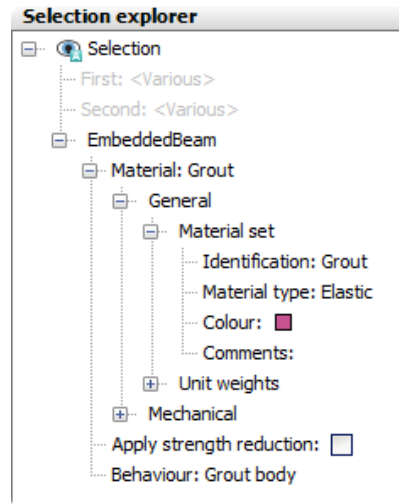

Figure 82: Embedded beam in the Selection explorer
6. Set the **Behaviour** of the embedded beam to **Grout body** as shown in Figure 82 (on page 110).